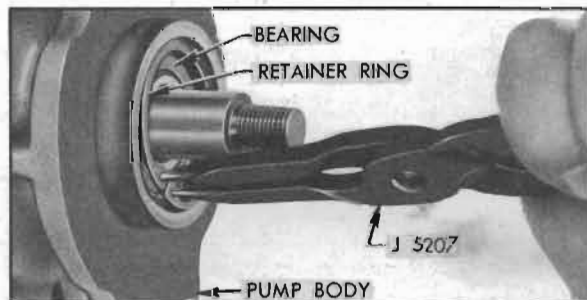

Figure 7-44—Removing Shaft Bearing Retainer Ring
6. Remove bearing retaining ring, using Ring Compressor J 5207 (fig. 7-44), then press drive shaft and outer bearing out of pump body. Shaft must be pressed through the inner ball bearing
7. Use Compressor J 5207 to remove the shaft bearing retainer ring (fig. 7-44) then press against the inner end of pump shaft to remove shaft and bearing from pump body.